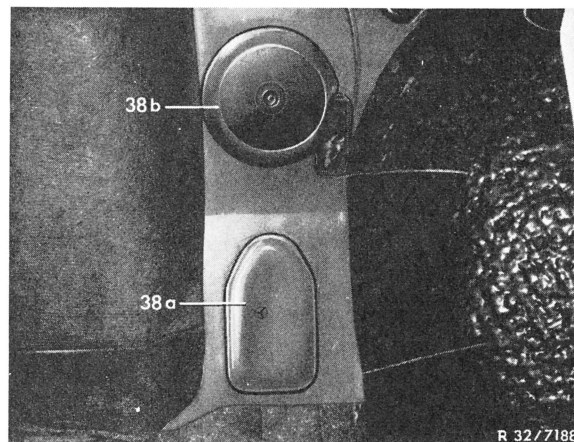

Fig. 1
- 2 Remove cover plate (Fig. 1).